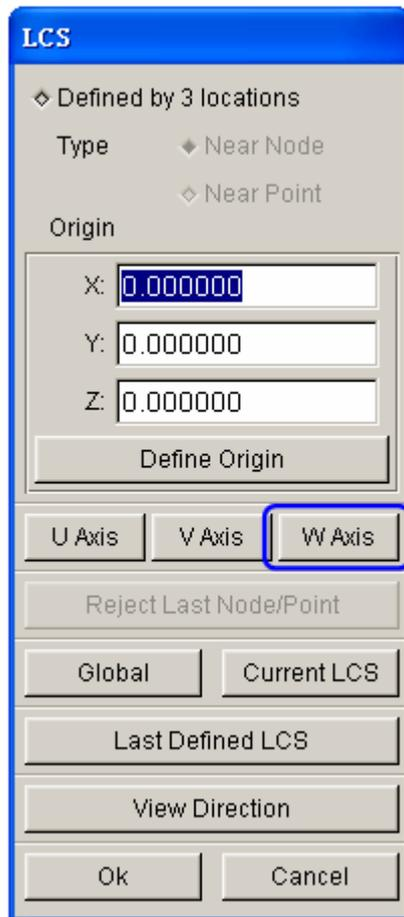

Figure 2.8 WCS dialog box
1. Define the working coordinate by clicking the **Local CS...** button to display the WCS dialog box, as shown in Figure 2.8.